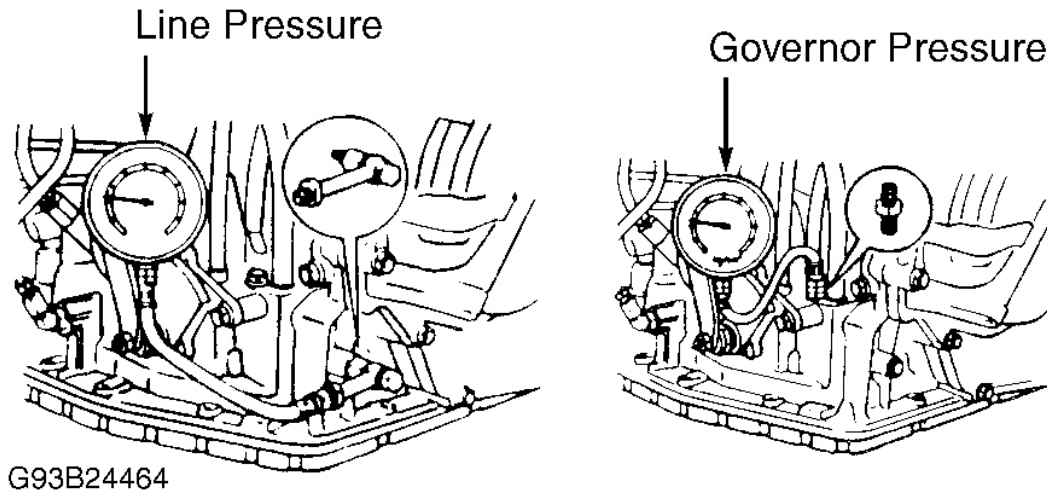

Fig. 2: Checking Governor & Line Pressure
1. Remove appropriate transaxle case plug and connect pressure gauge. See **Fig. 2**. Block all wheels. Apply parking brake. Start engine and shift into "D" position. Ensure idle speed RPM is set to specification.
1. Apply parking brake. Raise and support front of vehicle with safety stands. Remove appropriate transaxle case plug and connect pressure gauge. See **Fig. 2**.